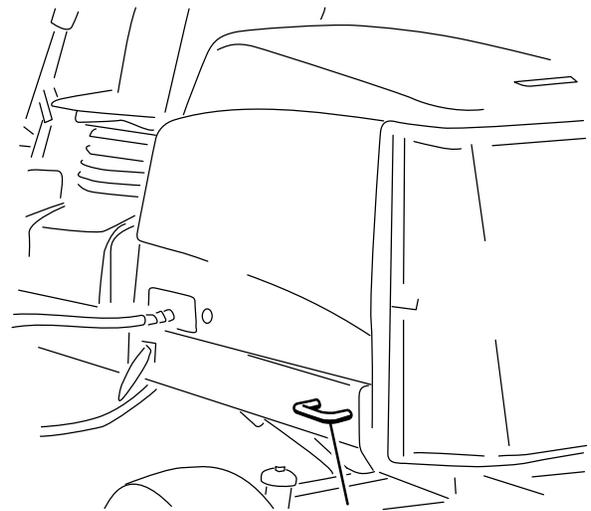
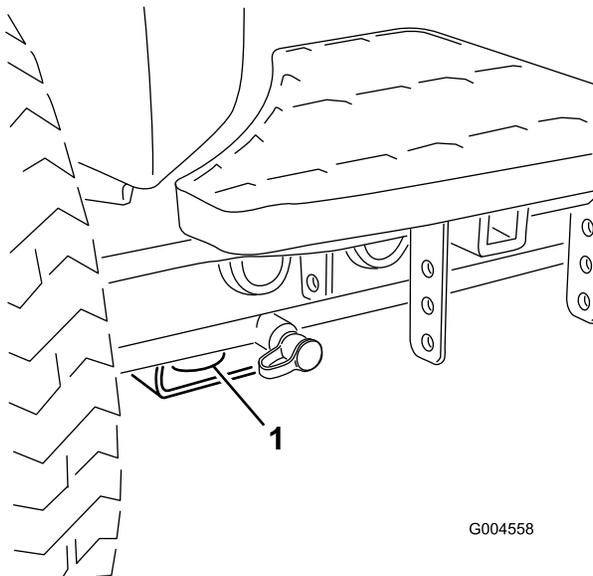

Figure 38
Figure 37
- Front—the hole in the rectangular pad, under the axle tube, inside each front tire (Figure 37).
- Rear—each side of the machine on the rear frame (Figure 38).
5. Use the metal tie-downs on the machine to securely fasten the machine to the trailer or truck with straps, chains, cable, or ropes (Figure 37 and Figure 38).
- Front—the hole in the rectangular pad, under the axle tube, inside each front tire (Figure 37)
- Rear—each side of the machine on the rear frame (Figure 38)